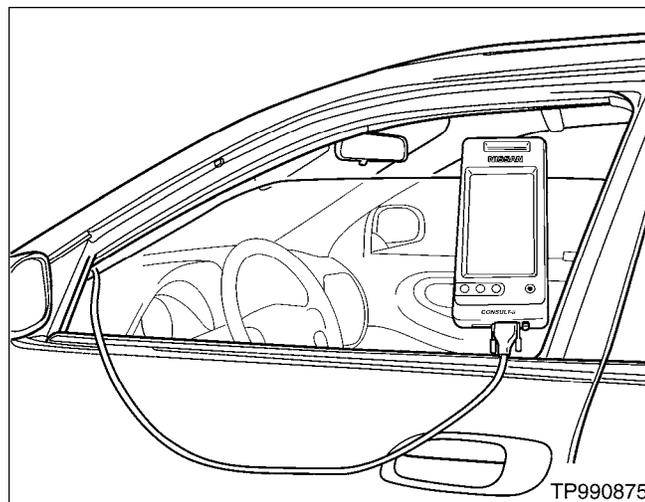

Figure C6
11. Roll the driver's window part way down, exit the vehicle, close the door and hang the CONSULT-II unit on the outside of the window (see Figure C6)